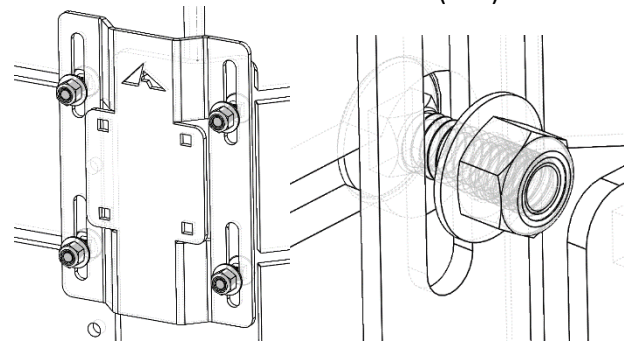

Figure 2: Positioning Accessory
4. Insert the back of the first two (2) carriage bolts into the relief at the leading edge of the corresponding slots on the BackPACK (Figure 2). Keep in mind the desired final mounting location on the BackPACK.